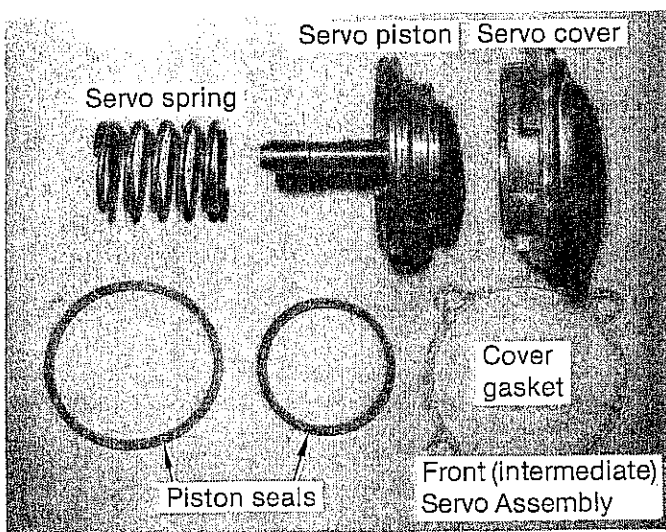

FIGURE 51
STEP 3. Install new seals on Intermediate servo piston. (See Fig. 51) Coat servo piston seals lightly with automatic transmission fluid and install servo piston into cover. Tap the piston down carefully until it is fully installed.